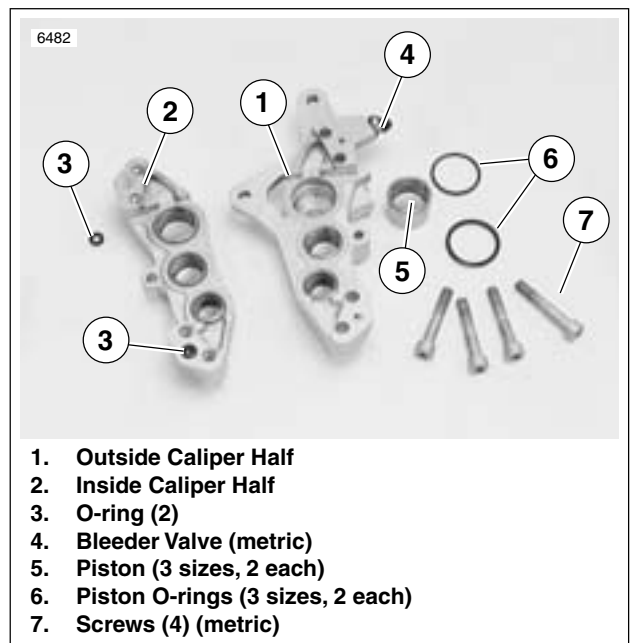

Figure 2-31. Caliper O-rings and Pistons
4. See Figure 2-31. Pry O-rings (6) out of their respective grooves on each side of caliper. Discard O-rings.
5. Check bleeder valve (4) (metric). Remove and replace if damaged.
1. See Figure 2-31. Install pistons and O-rings.
- b. Install two **new** O-rings (6) in grooves of each piston bore.
- c. Install pistons (5) in each piston bore.
2. Install two **new** O-rings (3) between caliper halves.
3. Attach caliper halves together with four screws (7) (metric). Tighten to 14.5-18 ft-lbs (20-24 Nm).
4. Install a **new** bleeder valve (4) (metric) if necessary. Tighten to 3-5 ft-lbs (4-7 Nm).